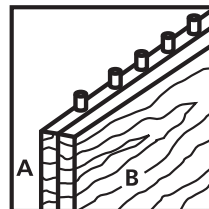

Figure 39
9. Position board B next to board A so that board B is closer to you. The finished sides of the boards should mirror each other; the finished sides of both boards should either be 1) facing each other or 2) facing outward. Use a square to ensure that both boards are properly aligned. Clamp boards together. See Figure 39.